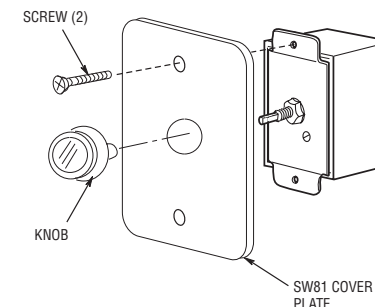

Figure 5
3. Install the front cover of the SW81 using two screws supplied (Figure 5).